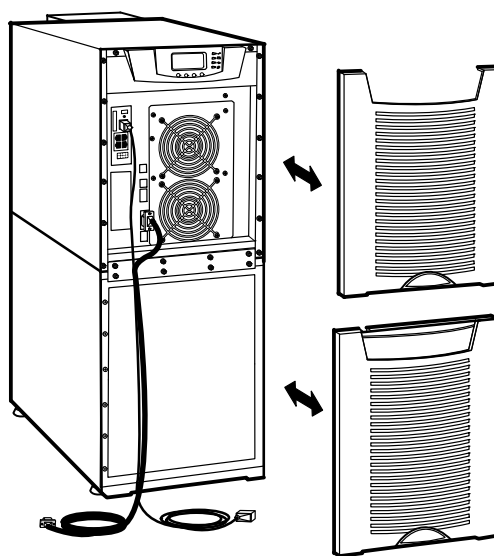

Figure 40. Reinstalling the Front Covers
6. Reinstall the front covers, starting with the bottom cabinet (see Figure 40).